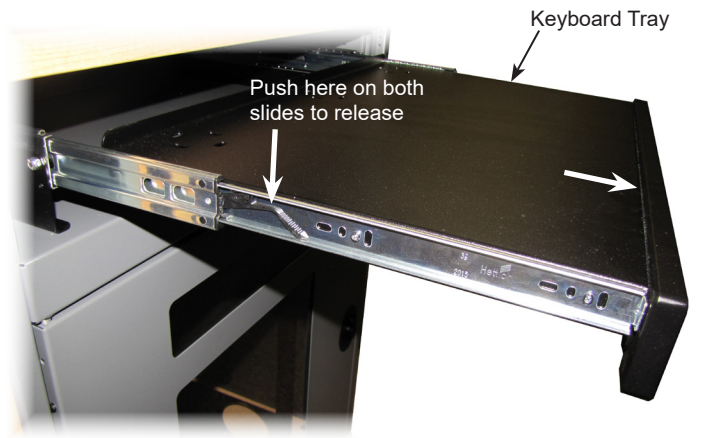

Figure 4
1. To flip, pull the tray out fully and locate the black plastic lever on each slide. **Figure 4.**